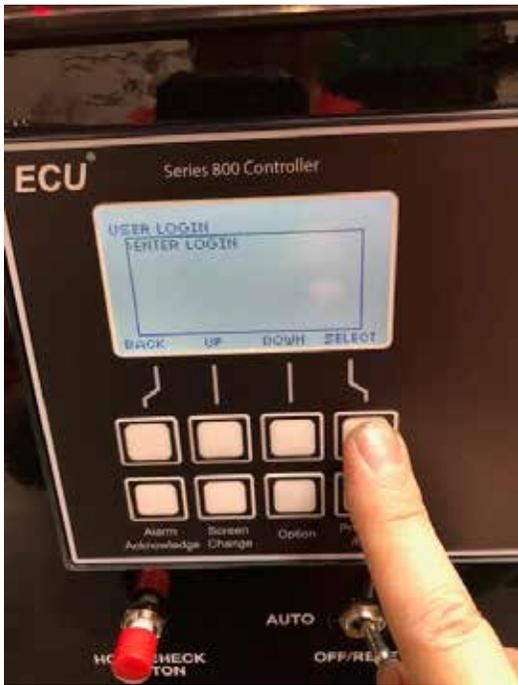

Figure 12. Select Button #2
6. Press the **SELECT** button (Figure 12) again for **ENTER LOGIN**.